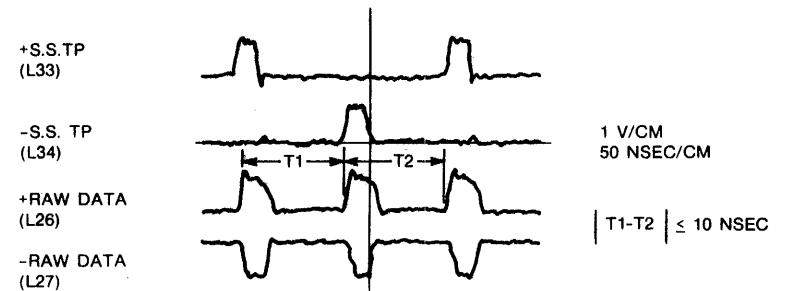

FIGURE 3-71. BIDIRECTIONAL ONE SHOT
- The maximum bit shift for clock or data pulses in a train of 0000 or 1111 bit pattern must be within ± 10 ns, measured at D19-L26 (+Raw Data) and D19-L27 (-Raw Data). This requirement must be met at any cylinder and particularly at cylinder 814 (RP06) or cylinder 410 (RP05), (Figure 3-71).